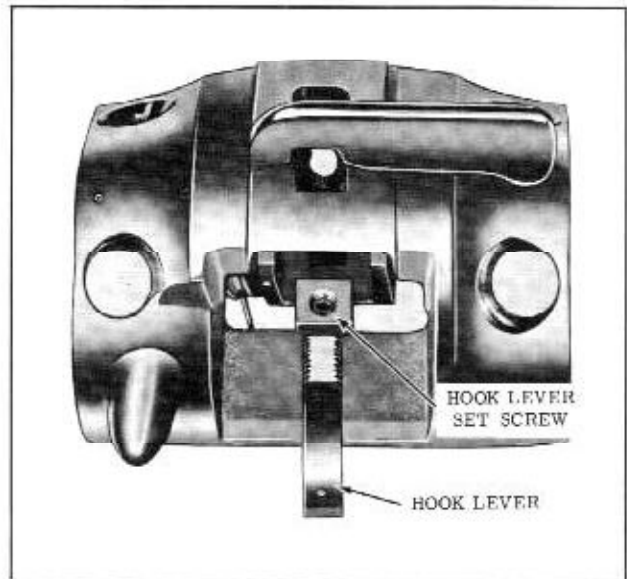

Fig. 17-117 Front Roof Rail Lock Assembly
2. Loosen striker support attaching screws and adjust striker as required (Fig. 17-117) then tighten attaching screws.
1. Loosen hook lever set screw. (Fig. 17-117)